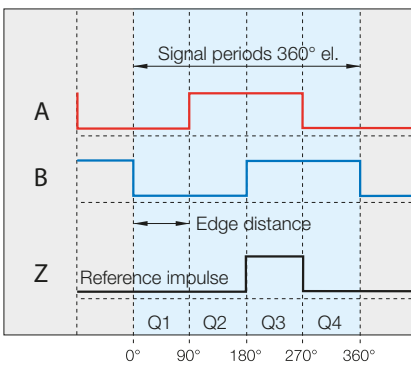

Fig. 6-1: Digital output signals for forward movement
Each edge change of A or B is a counting step for the cycle counter (up/down counter). With a leading signal A, the counter reading increases and it decreases with a leading signal B. The controller knows the precise increment position at all times, without having to periodically query the sensor (real-time capability). The position of the Z signal may be different (Q1 to Q4, see Fig. 6-1). However, it is always located in the correct physical position and is always one increment wide.
- A pole-periodic reference signal (period = 10 mm, reference signal width = edge distance, Fig. 6-1). If several reference signals must be transferred, an external selection switch must be mounted at the desired reference point signal.